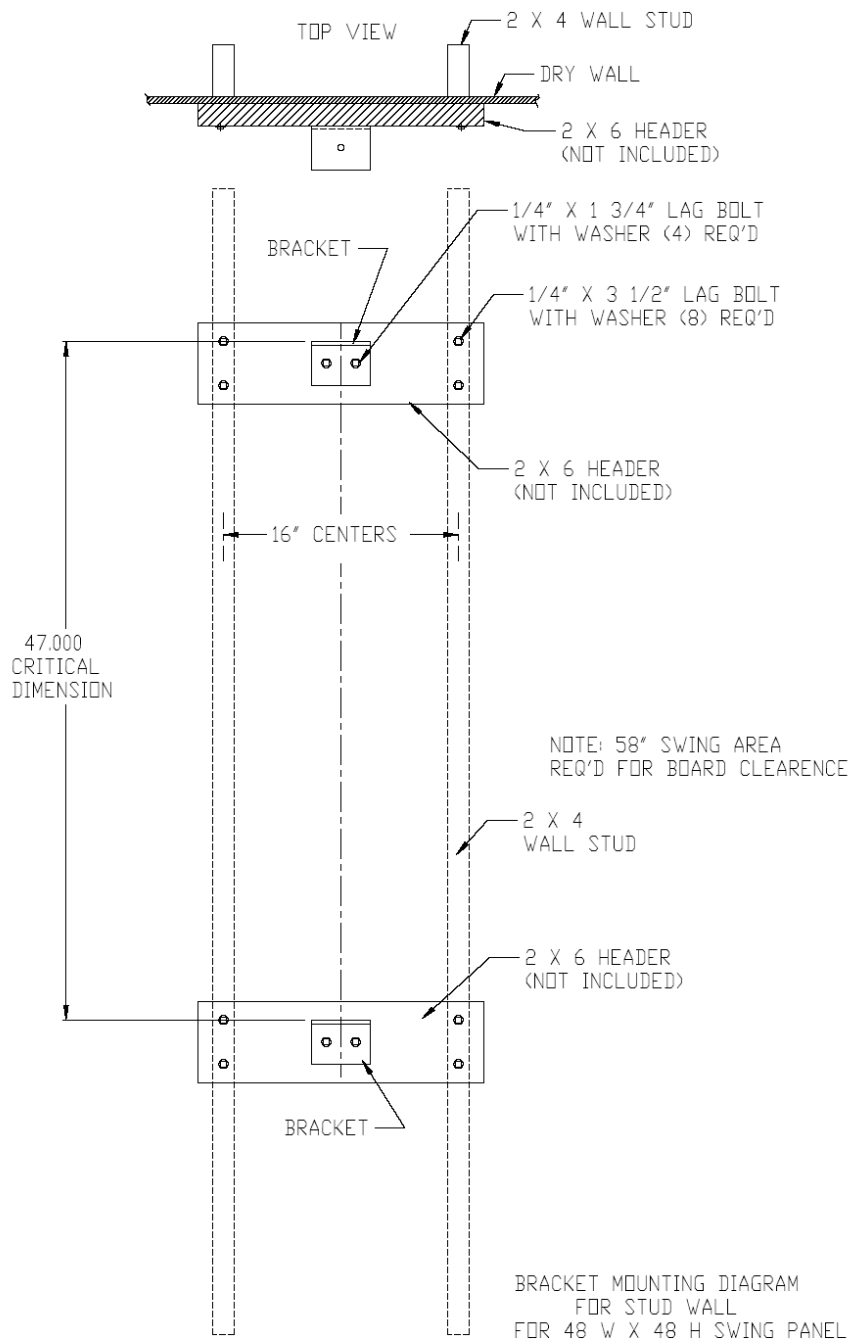

FIGURE 1-4
Note: Before starting step 6, it will be necessary to determine if your walls are plumb and structurally sound. It may be necessary to install some type of shim system or header for either or both, top and bottom wall brackets. (For 2" x 4" studded walls refer to figure 1-4 for header installation.)
Step 6. Bottom wall mount bracket installation for concrete walls (refer to figure 1-1, 1-2 & 1-4): Each bracket/angle has been pre-drilled for wall and panel attachment. You will be installing your bottom bracket first. **A)** Determine the appropriate height you want to install off the floor or work surface. **B)** Using one angle bracket as your template, with surface having only one hole on top and flat surface with two holes against the wall at the desired height. (**Avoid mortar joints between concrete blocks.**) **C)** Making sure wall mount bracket is level; mark both hole locations on the wall. **D)** Using 3/16" masonry bit and hole location markings on the wall, drill two holes 1-1/4" in depth. **Do Not Ream Out or Oversize the holes** **E)** Align bracket back over holes drilled and using a #2 Phillips head bit and electric drill set at medium speed, install (2) 1/4" x 1-1/4" masonry screws. . **WARNING** **Overtightening could cause holes to become oversized. If holes become enlarged: You must properly repair and re-drill, relocate mounting brackets or install a wood header.** For 2x4"studded walls refer to figure 1-4 for installation.
When installing a system to other types of wall structures it is recommended that a 2" x 6" header be securely installed to multiple studs and that 1/4" lag bolts be used in place of the supplied masonry bolts to attach wall brackets. (Refer to figure 1-4 for header installation)